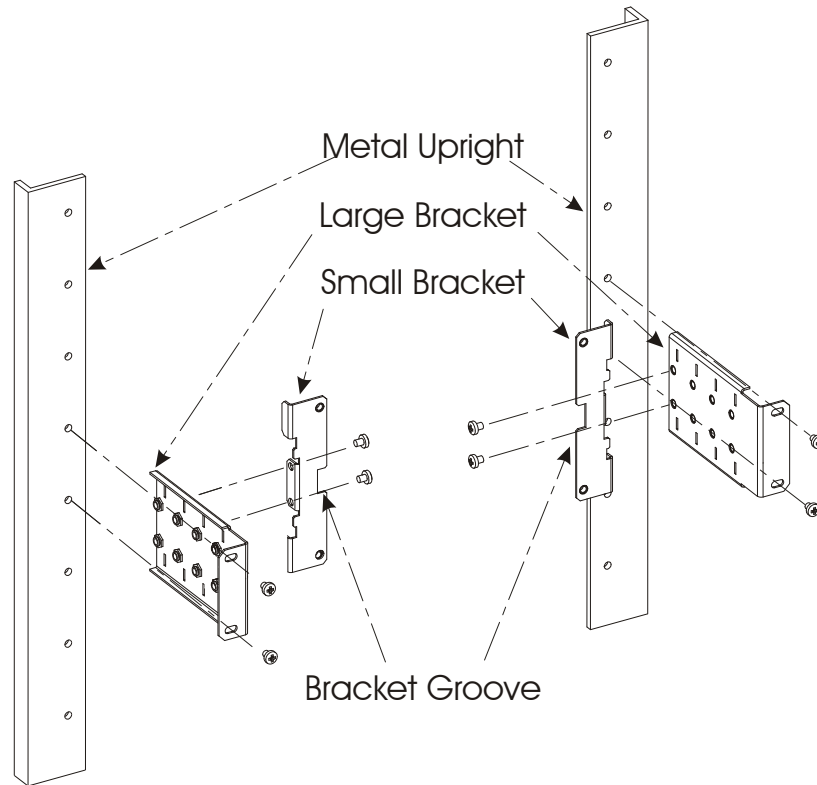

Figure 2-7 Installation of Brackets for 19" Rack Units
- 1) Press the small metal bracket into the slot of the larger bracket. See Figure 2-7.
- 2) Secure the two brackets together with two M5 screws (supplied), according to the desired depth of the unit on the rack. See Figure 2-7.
- 4) Using the supplied two screws, attach the combined brackets to the metal upright of a 19" rack unit. See Figure 2-7. Repeat on other side.